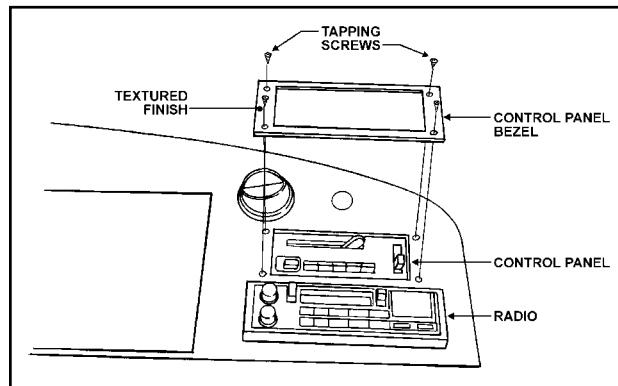

Figure 80: Removal of Control Panel Bezel
- C. Remove four (4) screws on control panel bezel plate (if equipped). (Fig. 80)